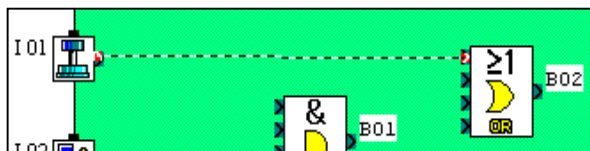

Fig. 1.17 Connection in progress.
- 3-Drag the pointer to one of the inputs on the **OR** block (B02) (figure 1.17).